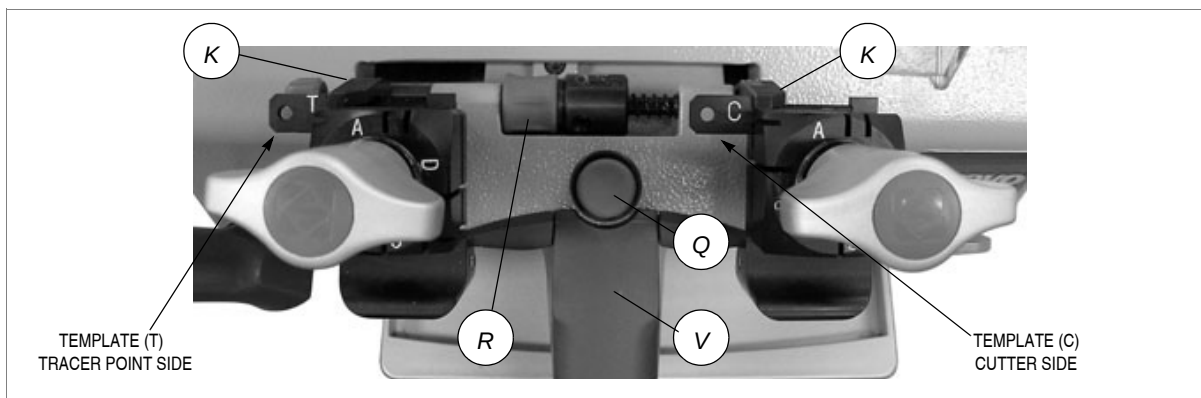

Fig. 14
- 3) Release the carriage by lowering the knob (V) and pressing the push button (Q) right down (fig.14).
- 1) Turn off the master switch (C) to operate safely and prevent activation of the cutting tool.
- 2) Position the electric contact templates on the clamps (fig. 14, page 15) and proceed as follows:
- a) ensure that the keys adhere to the clamps and that the callipers (K) are in full contact with the stops.
- b) to take the callipers into contact with the keys, rotate the drum (R) towards you (away from you to return to the ideal position).